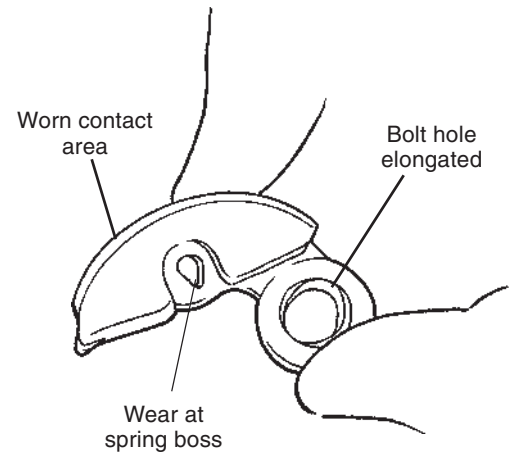

Figure 6.9 Inspect the clutch shoe assembly.
- A slipping clutch is prone to “chatter”, causing rapid wear to clutch springs, bosses, and bolt holes (Figure 6.9).